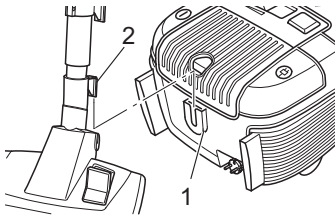

Fig.16
- For **storage** or during work breaks, you can use the parking hook mount (Fig. 16/1) to hook the parking hook (Fig. 16/2) onto the floor nozzle (Fig. 16).